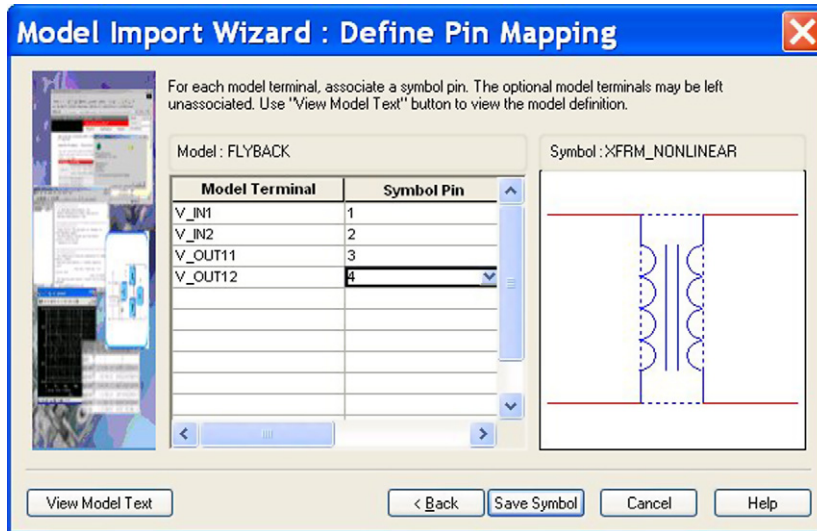

FIGURE 21.24
8. You have to associate the symbol pins with the model terminals. Select the pins as shown in Figure 21.24 and then click on **Save Symbol**. The pins are in the same order as for the subcircuit model (Figure 21.19).